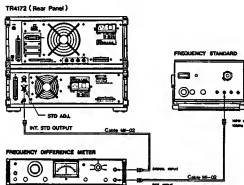

Fig. 11-1 Time base calibration
- (1) The time base oscillator output has a 10 MHz frequency and a level of approximately 5 V (TTL compatible). When     7 keys are pressed subsequently, the oscillator output is output at the INT. STD. OUTPUT (J4) connector on the rear of the instrument. The frequency accuracy of the oscillator output can be adjusted by the STD ADJ. screwdriver adjustment next to the J4 connector.
- (2) Prepare the measuring system as Figure 11-1, and adjust the STD ADJ. until the accuracy of each type of instrument is determined.